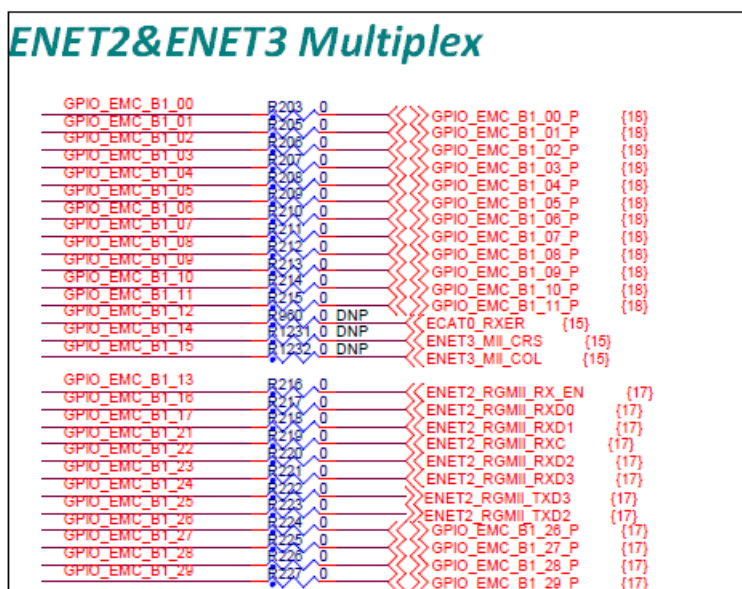

Figure 23. Step1
1. Remove resistor R203 and resistors R205 to R227 as shown in Figure 23.